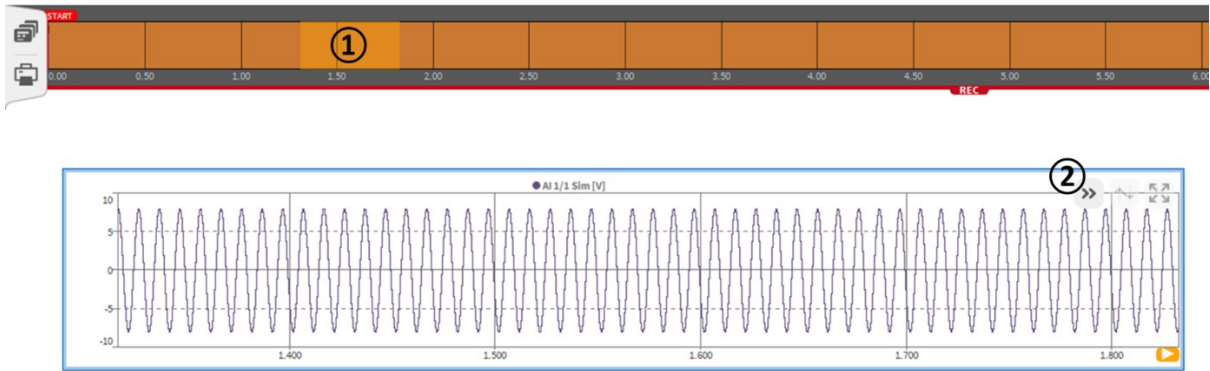

Fig. 8.7: Operational Features of DejaView™
While recording data, the user is free to use the Recorder to view data from the past, even during long duration recording. This feature is called DejaView™. For activating this function, the user must click with the left mouse button in the recorder or touch the recorder with his finger and drag or swipe to the right. From this point the user is also free to pinch or scroll zoom into the data. To quickly get back to looking at the current data the user can simply press the grey >> symbol (see ② in Fig. 8.7) and they will be snapped back into time with the current incoming data. This is one of the most **powerful** features of the OXYGEN software.
- Operational features of DejaView™ (see Fig. 8.7)
- ① Shows the part of the measurement file that is displayed in the recorder
- ② After pressing this button, the recorder will jump to the actual position of the measurement file and show the latest recorded data. A right click on this button makes the recorder show the recorded data from the recording start to the actual time position on the right end of the recorder